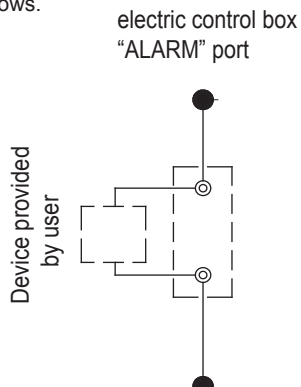

Fig. 8-23 Wiring of “ALARM” port
h) The by-pass pipes and by-pass valves as shown in Fig.8-23 must be mounted for the heat exchanger, to facilitate cleaning of the outside system of water passage before the unit is adjusted. During maintenance, the water passage of the heat exchanger can be cut off without disturbing other heat exchangers.